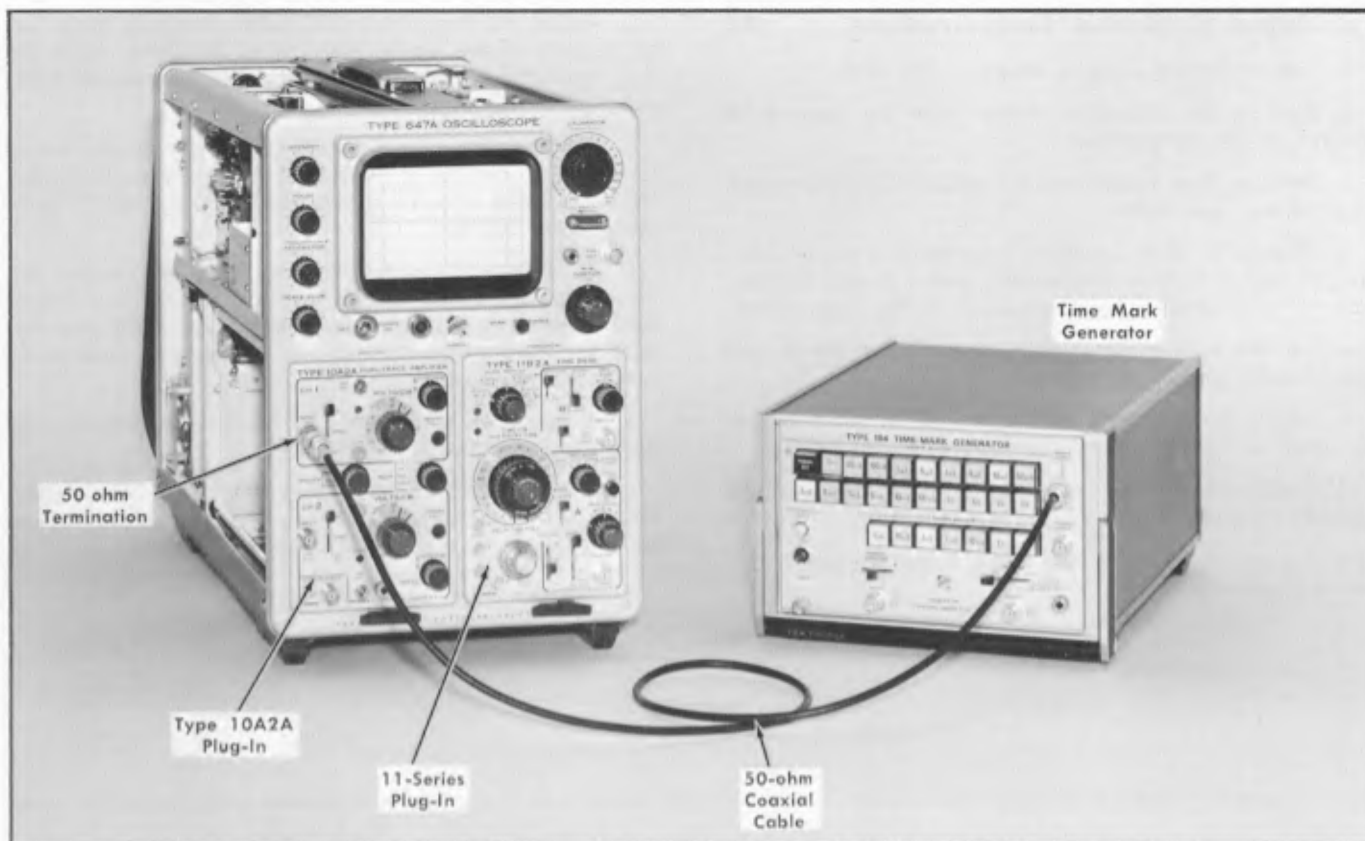

Fig. 6-18. Initial test equipment setup for step 18.
- ## 18. Adjust Horizontal Compensations ①
- Test equipment setup is shown in Fig. 6-18.